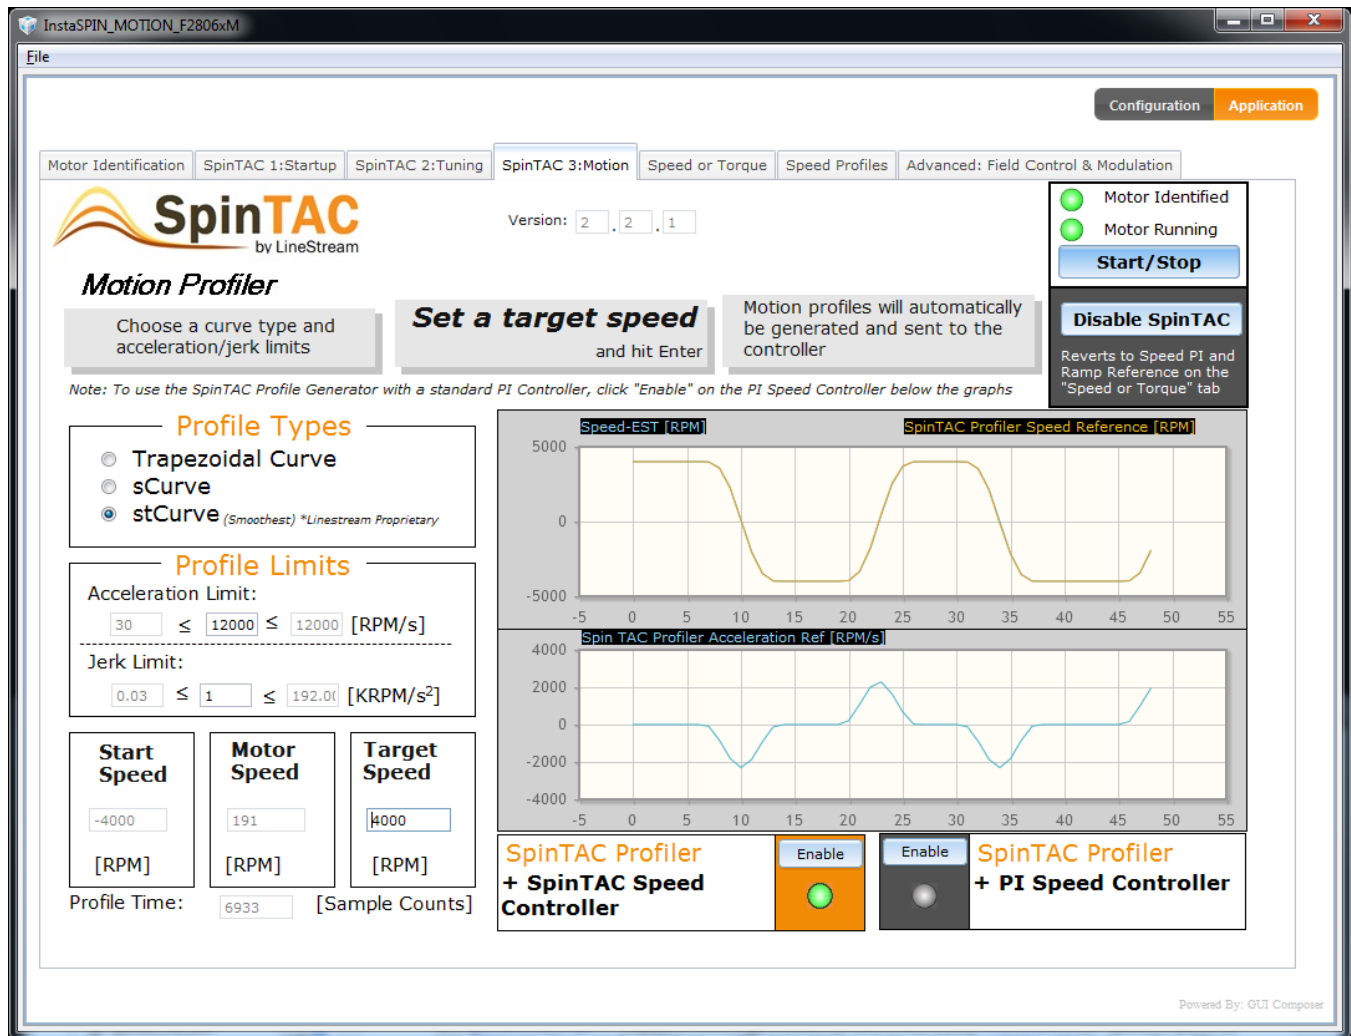

Figure 2-5. InstaSPIN-MOTION GUI Using SpinTAC 3:Motion Tab
Step 5. Set the target speed and select the profile type (Figure 2-5).